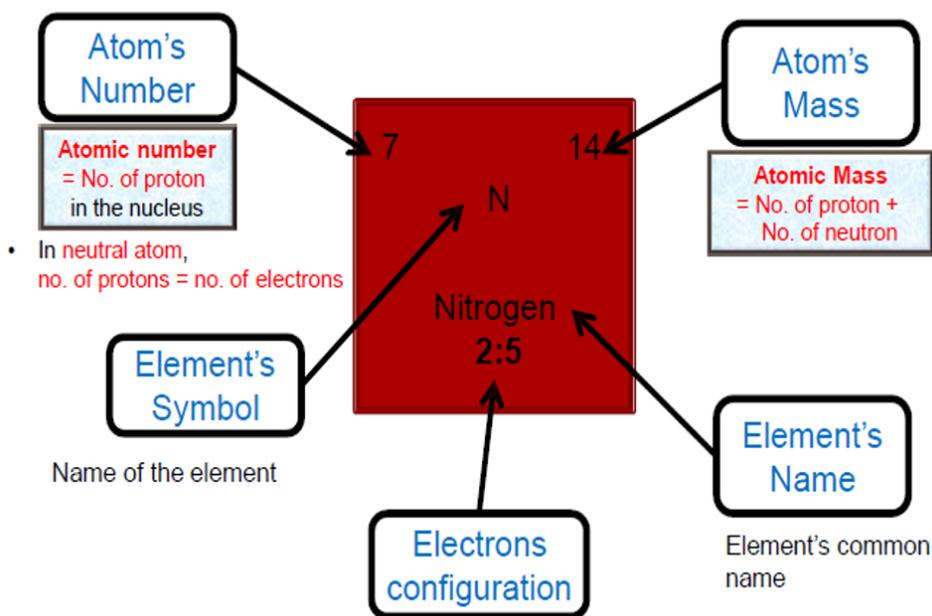

Figure 2.6 : Reading the element information in periodic table
- Figures 2.6 and 2.7 show how to read and information by each element.